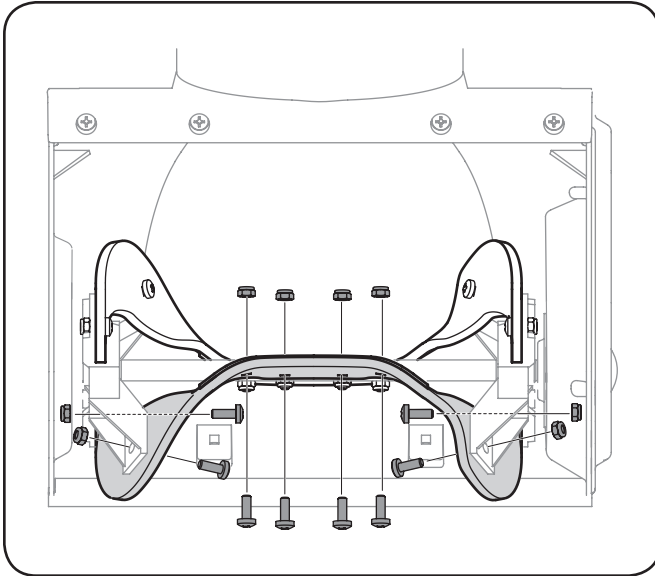

Figure 7-4
1. Remove the existing rubber paddles by unthreading the screws and nuts that secure them to the auger. See Fig. 7-4.